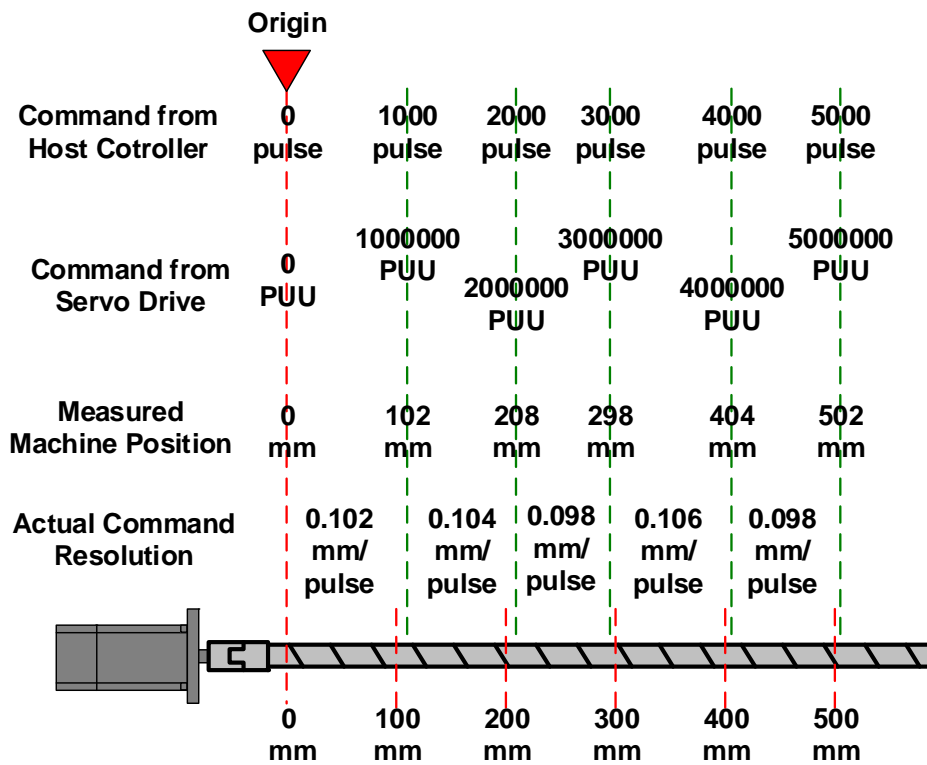
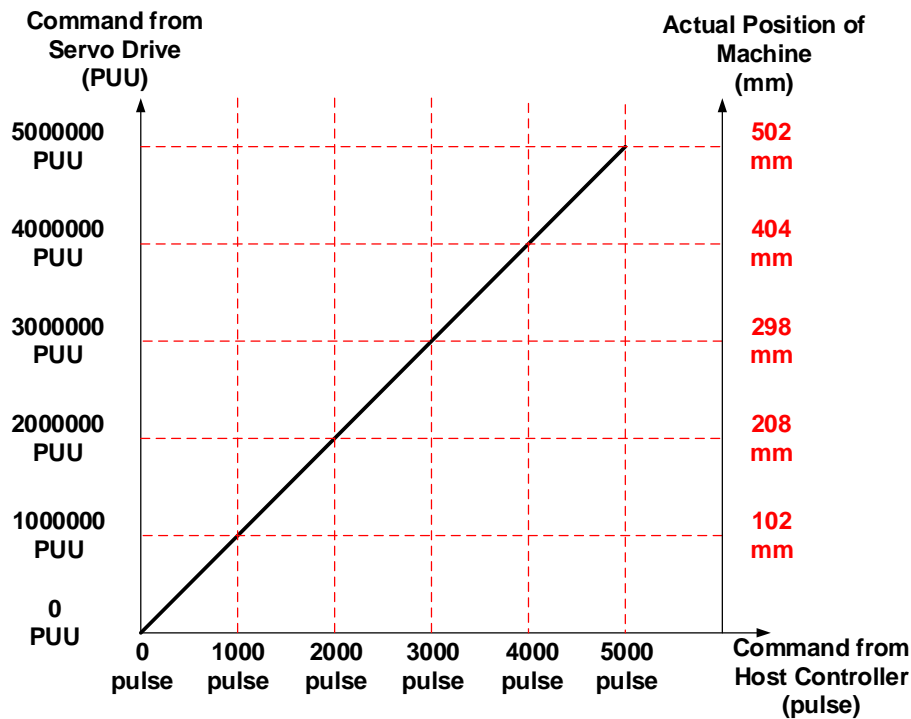
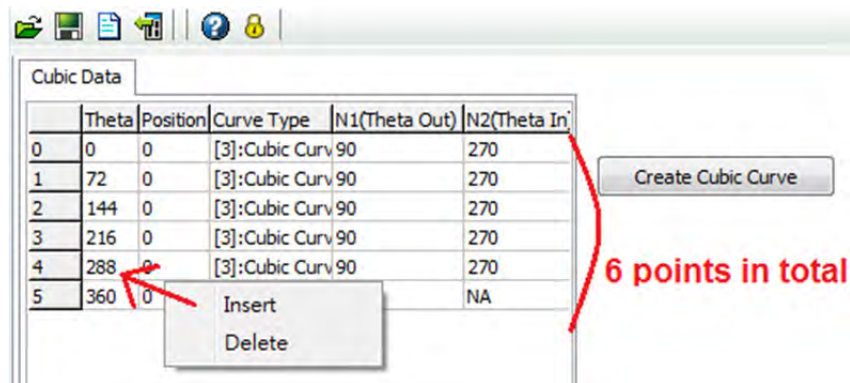

Figure 4.2.9 Measurement Result when Tolerance Exists
Figure 4.2.10 The Correlation when Tolerances Exist
Figure 4.2.14 Total points = measuring points + origin
In the actual measurement, there must be tolerance. See Figure 4.2.9. Thus, the E-Cam curve will be used to compensate and restore the resolution to 0.1 mm/pulse between every division.
3. Right click the mouse button to insert points. The total points will be the measuring points plus the origin. See example in Figure 4.2.9, the total required points are 6 (Figure 4.2.14). Set Curve Type for each point to [1]: *constant line*.
- Please refer to Figure 4.2.9 and Figure 4.2.10. Calculate the angle of the master axis and take 0.1 mm/pulse as the basis of command resolution.